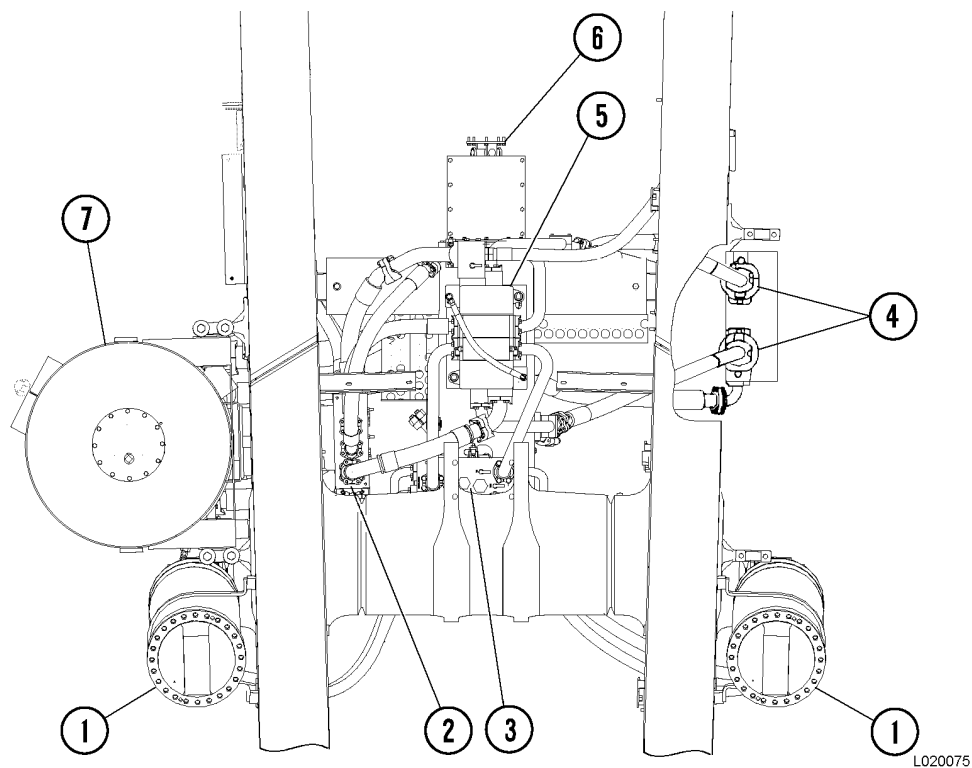

FIGURE 50-16. HOIST VALVE & PIPING (Top View)
6. Remove the capscrews and lockwashers that secure hoist valve (5, Figure 50-16).